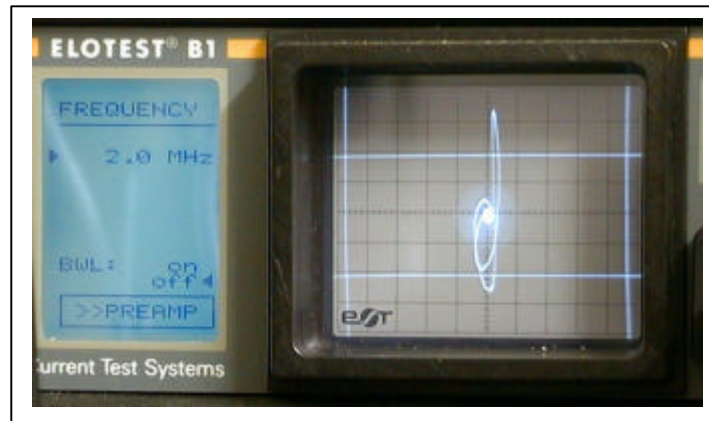

Fig. 3 Eddy current signal in Y/X mode from EDM notch in the reference standard, shown with alarm thresholds.
6. Place the Noble Guide again on the reference standard, align the probe with the hole and turn on the rotor. Plunge the probe into the hole and locate the maximum signal from the EDM notch. You should get a nice, clean signal as shown in fig. 3. If you do not get this signal but get a large "streak" even away from the EDM notch, slightly reposition the probe horizontally until you get a clean signal. Split-shaft probes, if not centered correctly, will "slap" against the bolt hole wall and cause a "smeared" signal.